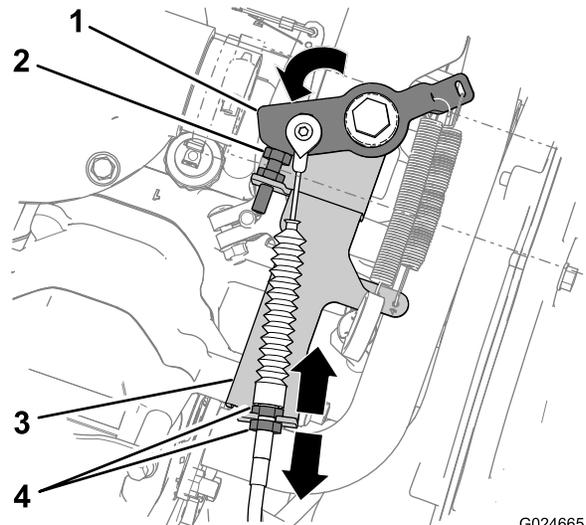

Figure 87
- Loosen the inboard-jam nut for the throttle cable and tighten the outboard jam nut to decrease the gap (Figure 87).
- Loosen the outboard-jam nut for the throttle cable and tighten the inboard jam nut to increase the gap (Figure 87).
4. Ensure that the jam nuts for the throttle cable are tight (Figure 87).